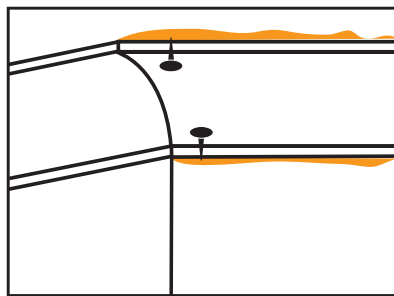

FIGURE 13 Position Cornice
- Press the cornice into place and if necessary hold with temporary nails in the wall and ceiling along the edges of the cornice [Figure 13]